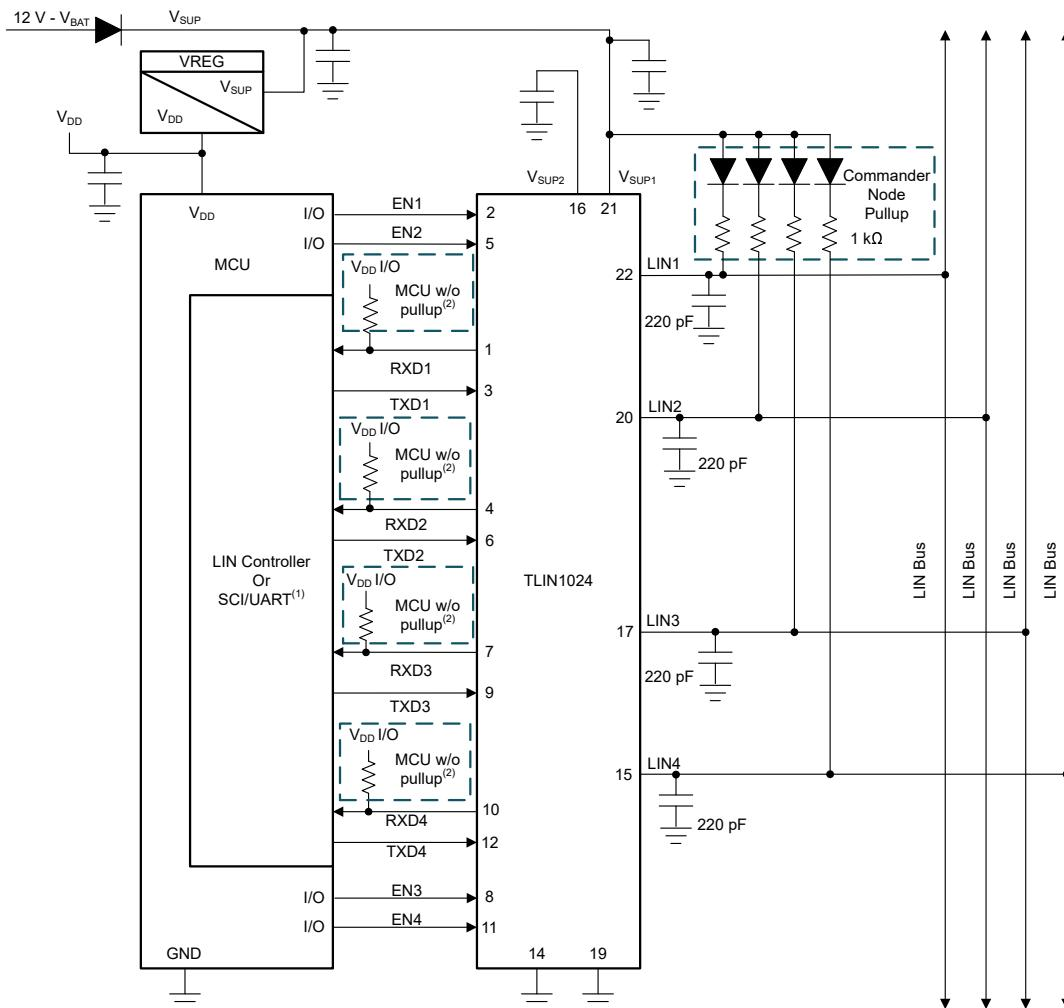

Figure 8-1. Typical LIN Bus
The device comes with an integrated 45 kΩ pull-up resistor and series diode for responder applications. For commander applications, an external 1 kΩ pull-up resistor with series blocking diode can be used. Figure 8-1 shows the device being used in both commander and responder applications.
- Pin 13, 18, 23 and 24 (NC):** Not Connected
- Pins 22, 20, 17 and 15 (LIN1/2/3/4):** This pin connects to the LIN bus. For responder applications a 220 pF capacitor to ground is implemented. For commander applications and additional series resistor and blocking diode should be placed between the LIN pin and the $V_{SUP1/2}$ pin. See Figure 8-1.